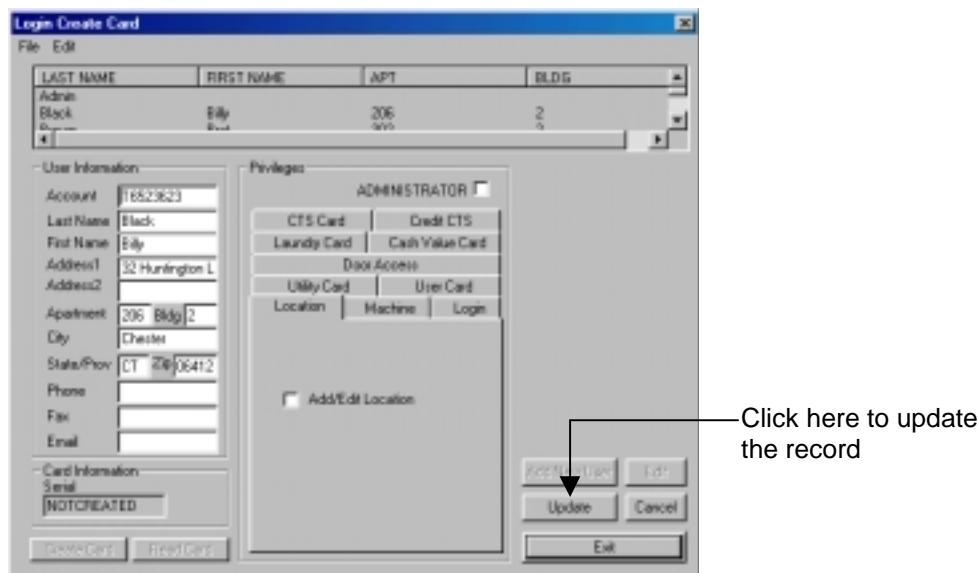

Figure 4.4 Saving Login User into the Database
6. After verifying that all user information and software privileges have been entered correctly, click the Update button (Figure 4.4).